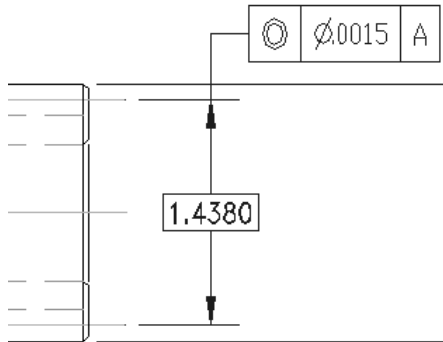

Figure 15-33: A basic dimension
- ♦ A **basic** dimension places the dimension in a box, as shown in Figure 15-33